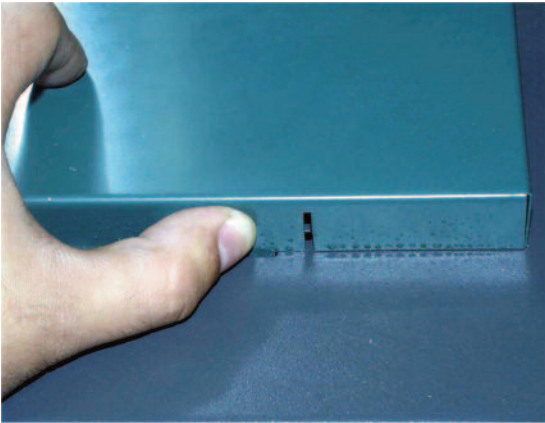

Fig. 8
9. Lower the top panel cover and using your thumbs, push the tabs in so the tabs fit into the slots on the top of the heater. See **Fig. 8**.